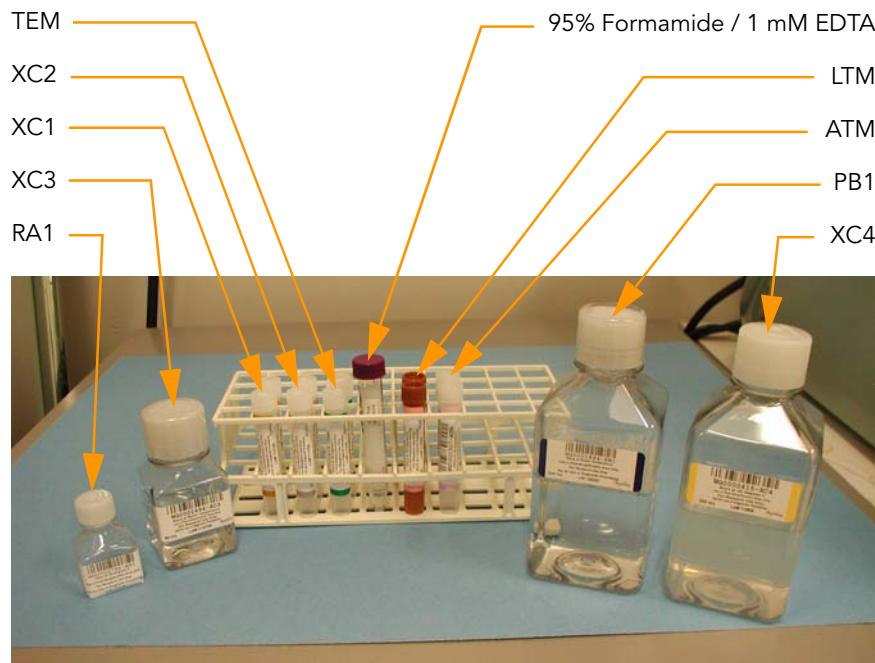

Figure 54 XStain BC2 Reagent Tubes and Bottles
- ▶ Place all reagent standoff tubes in a rack in the order in which they will be used (Figure 54). If frozen, allow them to thaw to room temperature (22°C) and centrifuge to 3000 xg for 3 minutes.